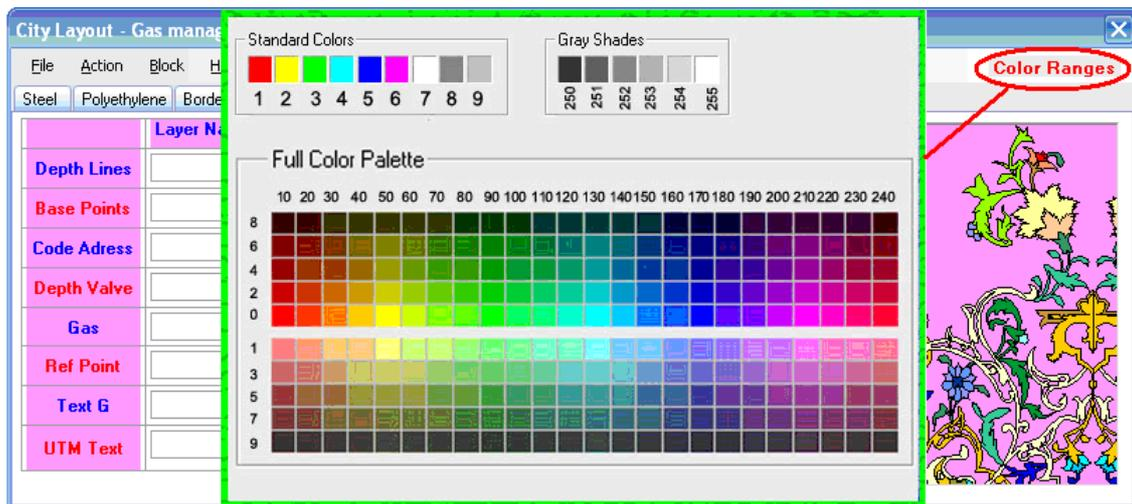

Figure 10
As you see Figure 10 “Color ranges” link, appears a color dialog for finding correct color number. This form is look like Autodesk color dialogs. If you pay attention, you can find lot of tools, menu and user interface (UI) is similar to common environment such as office software and AutoCAD environment. This factor causes operator works better because all forms are user friendly.
- Figure 10 : Color in layers and block management form.